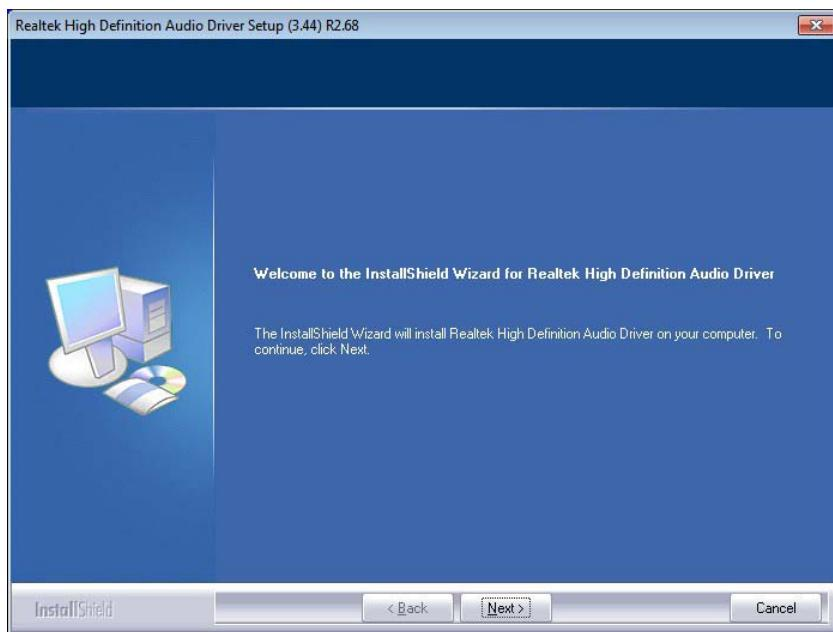

Figure 6-20: InstallShield Wizard Welcome Screen
Step 5: Once initialized, the **InstallShield Wizard** welcome screen appears (**Figure 6-20**).